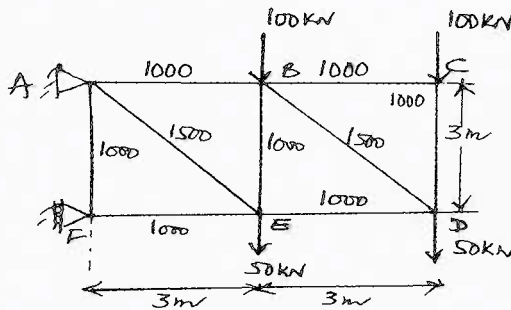

Fig.Q3
3. For the frame loaded as shown in Fig.Q3, calculate the vertical deflection at joint D. Take $E = 200 \text{ kN/mm}^2$. Areas of each member in mm^2 is shown along the side of the member. Adopt unit load method. (20 Marks)